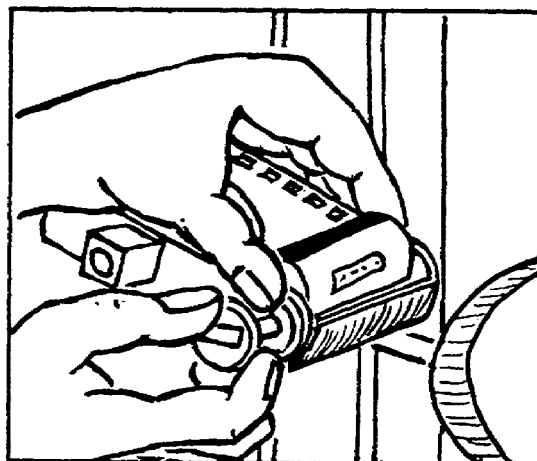

Figure 1-17. Insert Cassette.
d. Hold a fresh roll of film with left thumb and index finger so that the film tab is inside your left palm (fig 1-17). Insert the cassette into the camera, while holding the film tab.